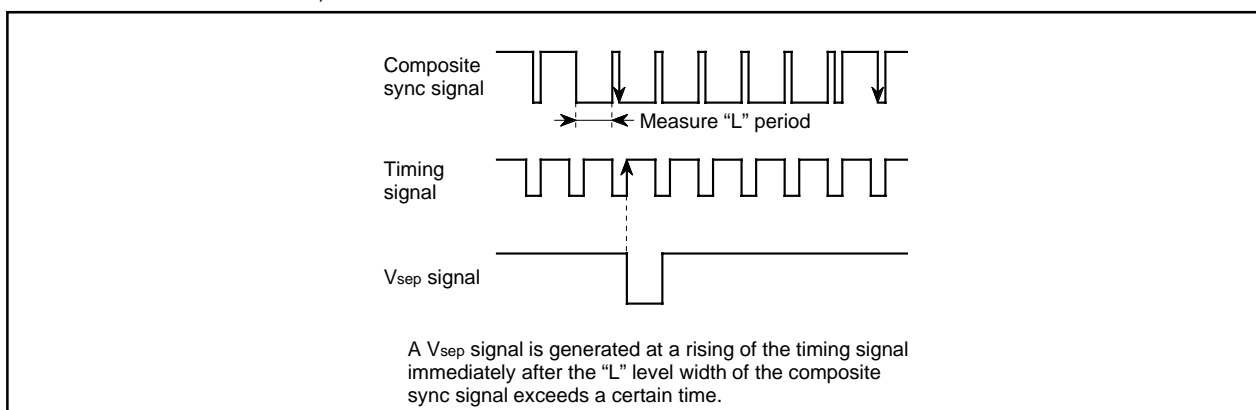

Figure 2.14.6 Vsep generating timing (method 2)
- Method 2 The "L" level width of the composite sync signal is measured. If this width exceeds a certain time, it is detected whether a falling of the composite sync signal exits or not in the "L" level period of the timing signal immediately after this "L" level. If a falling exists, a Vsep signal is generated in synchronization with the rising of the timing signal (refer to Figure 2.14.6).
Figure 2.14.6 shows a Vsep generating timing. The timing signal shown in the figure is generated from the reference clock which the timing generating circuit outputs.